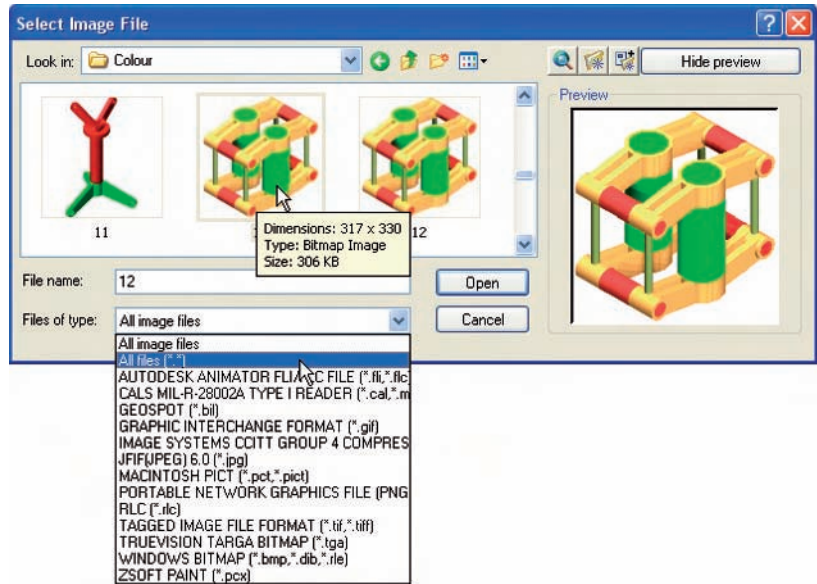
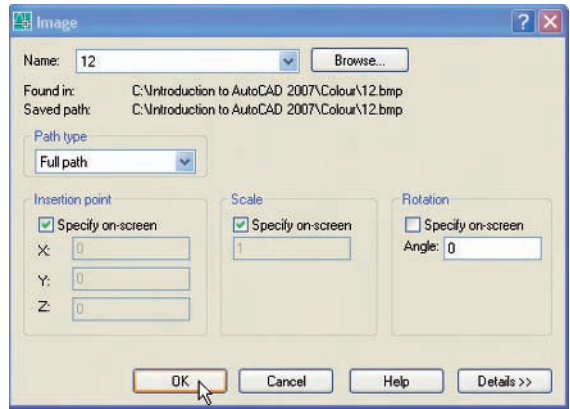
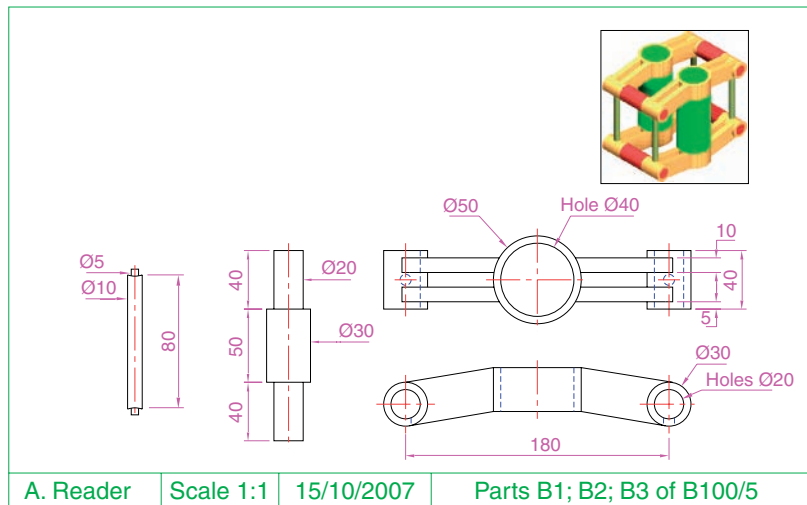

Fig. 20.3 The **Select Image File** dialog
Fig. 20.4 Example – Raster image in a drawing – the Image dialog
Fig. 20.5 Example – Raster image in a drawing
Example – Raster image in a drawing (Fig. 20.5)
Raster images are graphics images such as those taken from files ending with the file extensions ***.bmp**, ***.pcx**, ***.tif** and the like. The types of graphics files which can be inserted into AutoCAD drawings can be seen by first *clicking* on **Raster Image Reference...** in the **Insert** drop-down menu (Fig. 20.2), which brings the **Select Image File** dialog (Fig. 20.3) on screen. In the dialog *click* the arrow to the right of the **Files of type** field and the popup list appears which lists the types of graphics files which can be inserted into AutoCAD drawings. Such graphics files can be used to describe in 3D the details shown in 2D by a technical drawing.
10. Open the **Select Image File** dialog and from the **Look in** field select the raster file **12.bmp** from the file list (Fig. 20.3). Another dialog (**Image**) opens (Fig. 20.4) showing the name of the raster image file. *Click* the **OK** button of the dialog and a series of prompts appear at the command line requesting position and scale of the image. *Enter* appropriate responses to these prompts and the image appears in position in the orthographic drawing (Fig. 20.5).
- Place the image in position in the drawing area. In Fig. 20.5 the orthographic projections have been placed within a margin and a title block has been added.
1. Open the orthographic drawing with its raster image (Fig. 20.5).